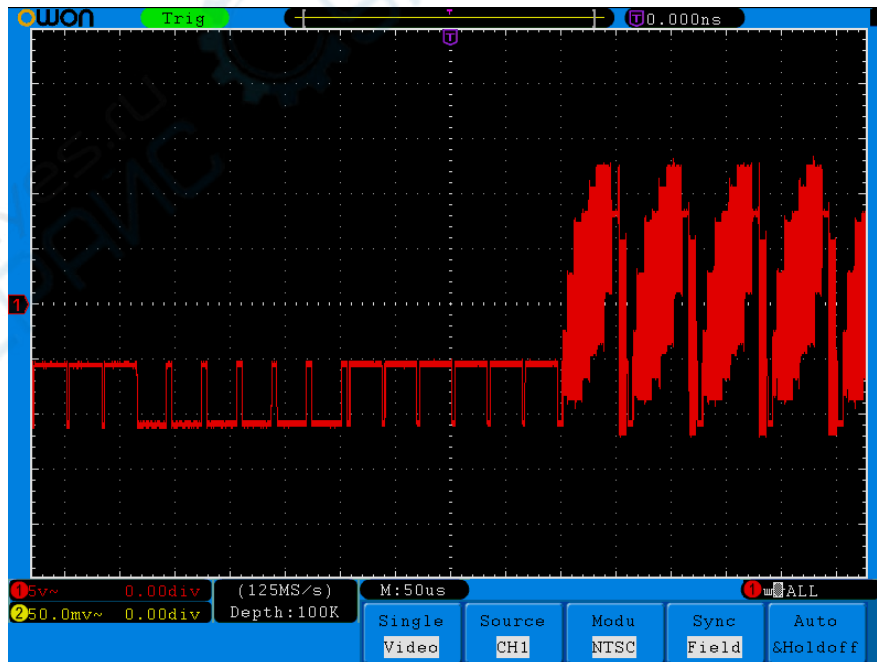

Figure 7-7 Waveform Captured from Video Field Trigger
- (1) Press the **Trigger Menu** button to display the trigger menu.
- (2) Press the **H1** button to display the trigger type menu.
- (3) Press the **F1** button to choose **Single** for Type.
- (4) Turn the **M** knob to choose **Video** as the mode.
- (5) Press the **H2** button to display the Source menu.
- (6) Press the **F1** button to choose **CH1** for Source.
- (7) Press the **H3** button to display the Modu menu.
- (8) Press the **F1** button to choose **NTSC** for the modulation.
- (9) Press the **H4** button to display the sync menu.
- (10) Press the **F2** button to choose **Field** for Sync.
- (11) Turn the **VOLTS/DIV**, **VERTICAL POSITION** and **SEC/DIV** knobs to obtain a proper waveform display (see Figure 7-7).